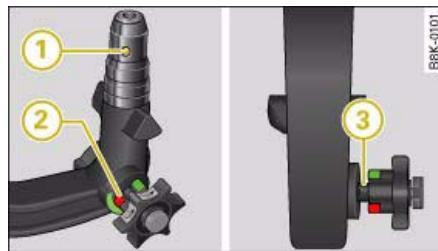

Fig. 198 Removable towing bracket: Ball joint
- Check that the red marking (2) ⇒ fig. 198 on the knob is inside the green zone on the ball joint.
- Check that the locking ball (1) is inside the hole in the shaft section of the ball joint.
- Check that the knob protrudes visibly from the ball joint, so that there is a clear gap (3) between the knob and the ball joint.